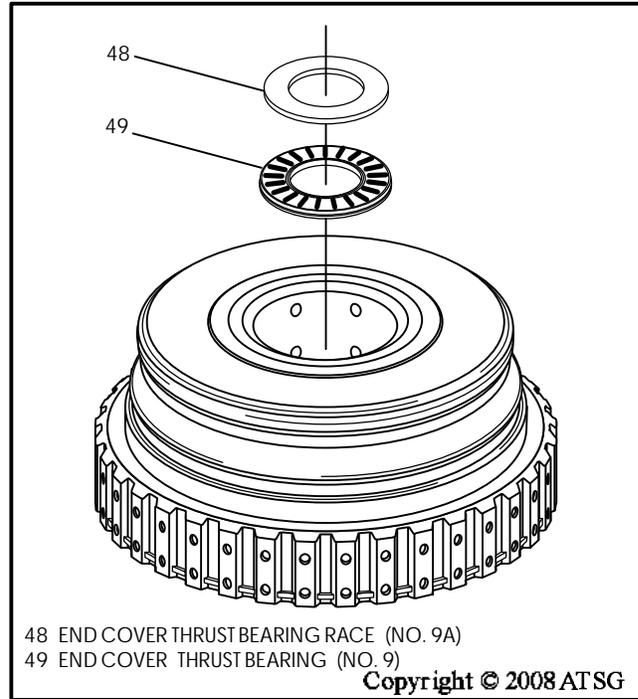

Figure 144
- 24. Turn the high and reverse clutch housing over, as shown in Figure 144, and install number 9 thrust bearing and number 9A thrust bearing race, retain with a small amount of Trans-Jel®.